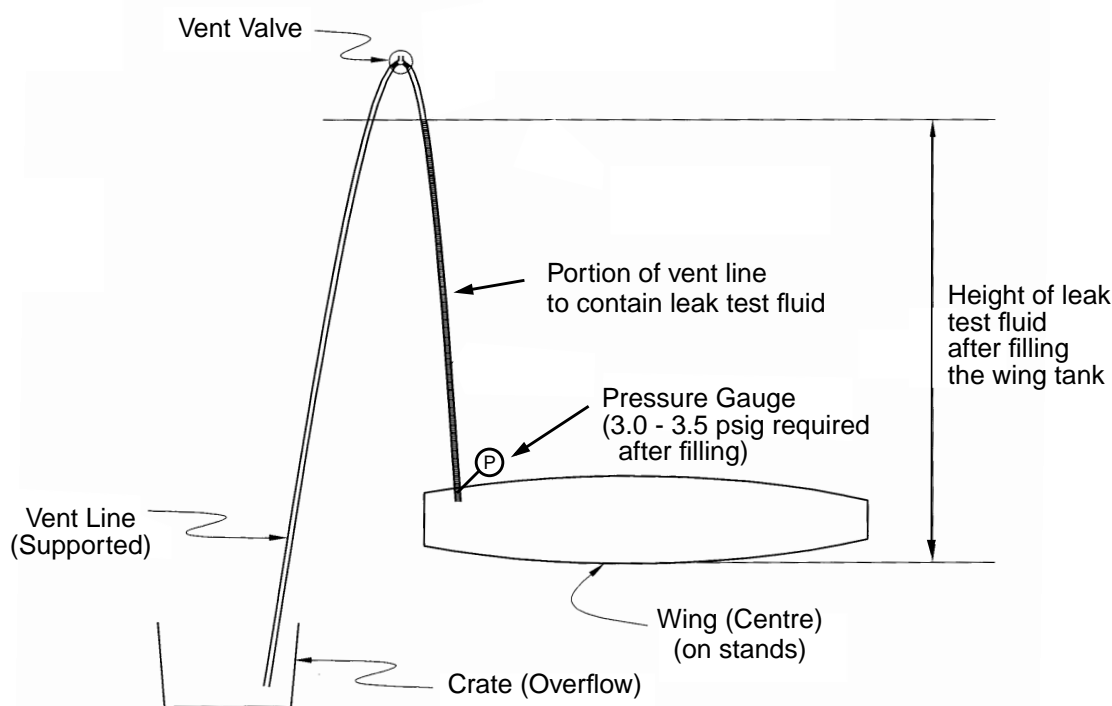

Figure 1 - Set-up of Vent Lines
- Step 9. Route and connect a clear plastic hose to each of the wing vent lines as shown in Figure 1 below.
- Step 6. Continue filling each wing tank until leak test fluid fills the vent line hoses resulting in a pressure of 3.0 - 3.5 psig (see Figure 1).